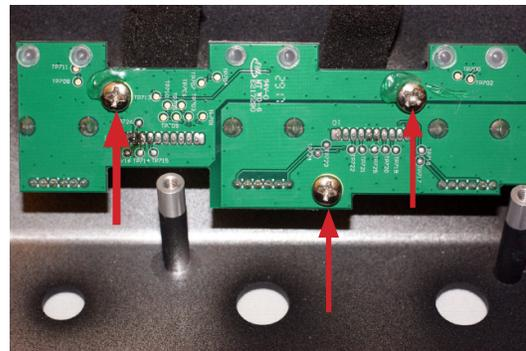

Figure 23
8.2 Remove the three screws indicated by arrows shown in figure 23.